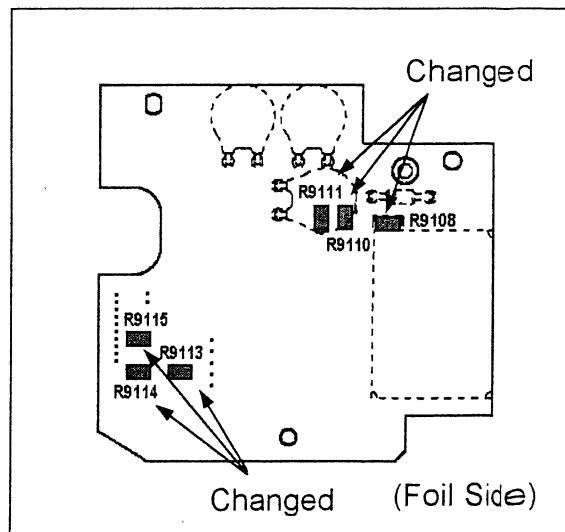

Fig. 7
- 2). Resistor R9108 is changed from 1/10W,1M Ω to 1/10W,0 Ω on the foil side as shown in figure 7
- 3). Resistor R9110 and R9111 are changed from 1/10W,1M Ω to 1/10W,470K Ω on the foil side as shown in figure 7.
- 4). Resistor R9113 is changed from 1/10W,1.5M Ω to 1/10W,470K Ω on the foil side as shown in figure 7.
- 5). Resistor R9114 is changed from 1/10W,1.5M Ω to 1/10W,680K Ω on the foil side as shown in figure 7.
- 6). Resistor R9115 is changed from 1/10W,220K Ω to 1/10W,820K Ω on the foil side as shown in figure 7.